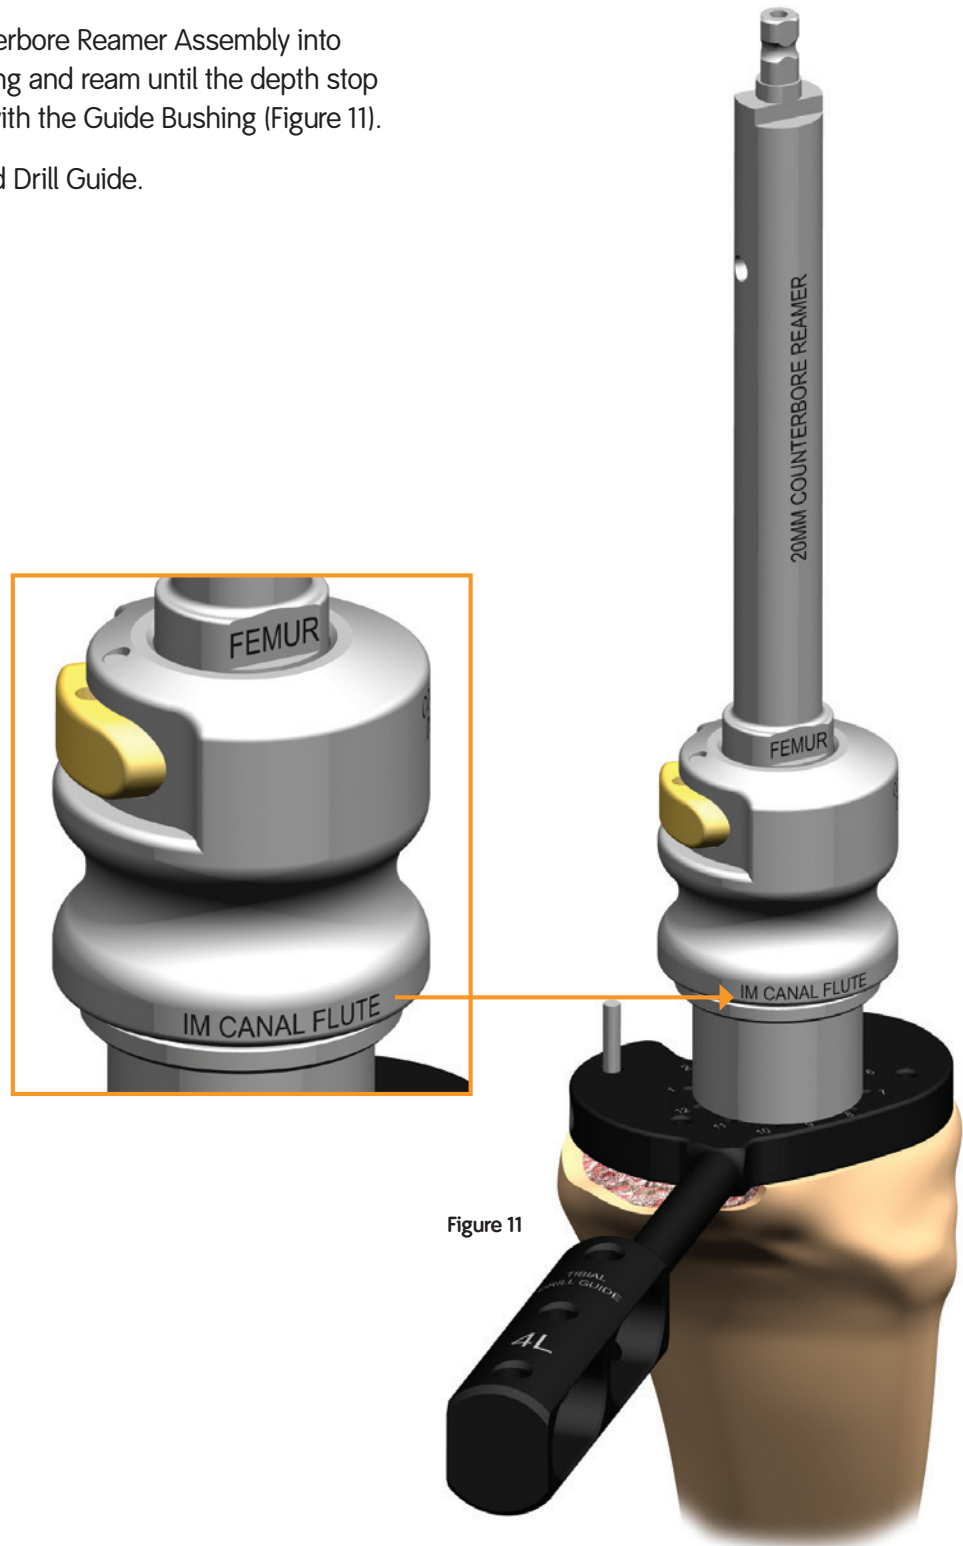

Figure 11
6. Insert the Counterbore Reamer Assembly into the Guide Bushing and ream until the depth stop makes contact with the Guide Bushing (Figure 11).